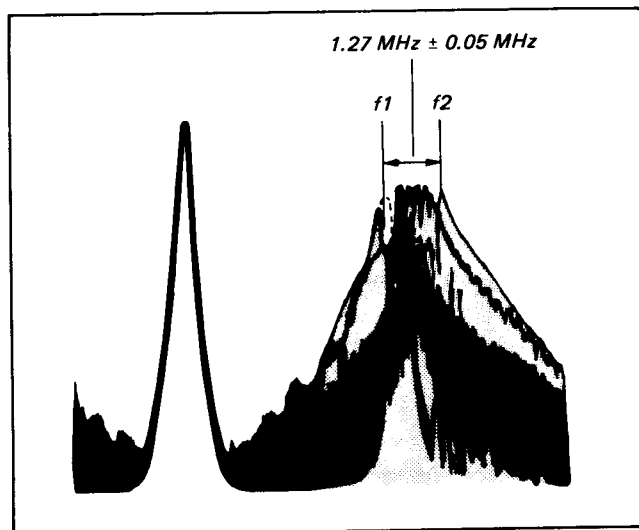

Fig. 5-20. FM Modulator Deviation Adjustment
- (1) Adjust the spacing between  $f_2$  and  $f_1$  to  $1.27 MHz \pm 0.05 MHz$  with RV202. (See Fig. 5-20)
- (2) Adjust according to step 5 and 6 (1) repeatedly so that Y signal carrier and deviation adjustments are both satisfied.